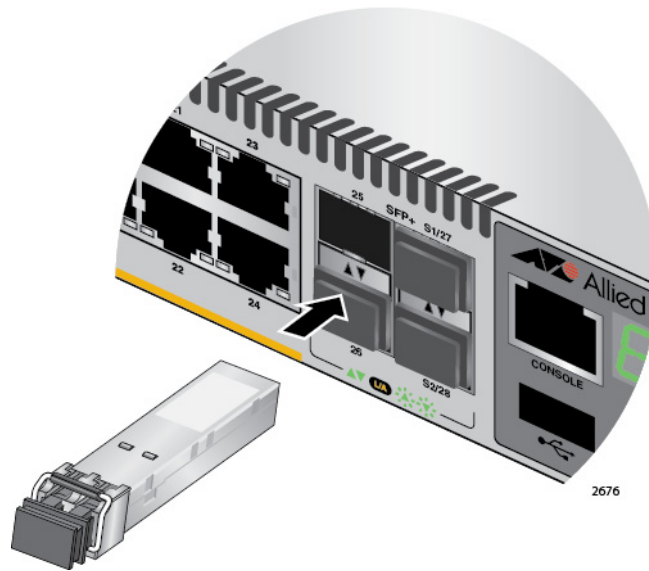

Figure 28. Installing an SFP or SFP+ Transceiver
4. Slide the transceiver into the slot until it clicks into place, as shown in Figure 28 on page 75.